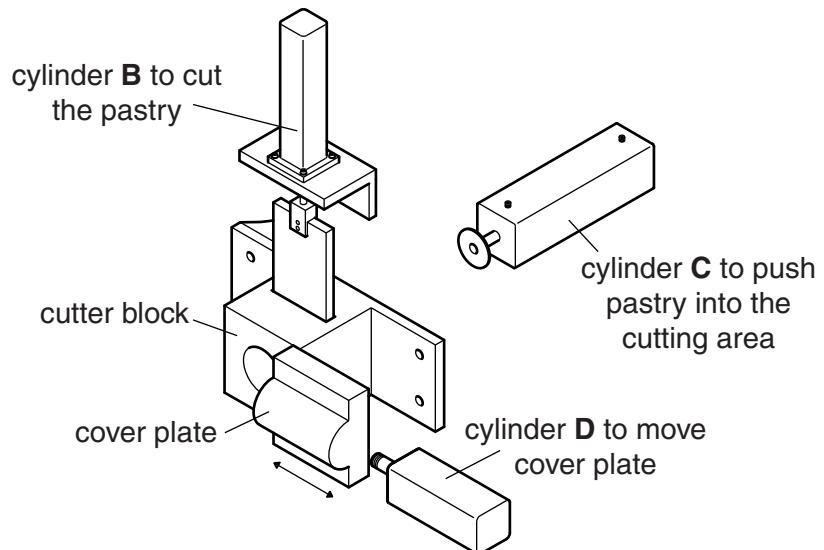

Fig. 6
- 4 Fig. 6 shows cylinder **D** which pushes a cover plate across the face of the cutting block for cylinder **C** to push the pastry against.
- 5 It is important that cylinder **C** in Fig. 6 applies the correct pressure when pushing the pastry into the cutting area.